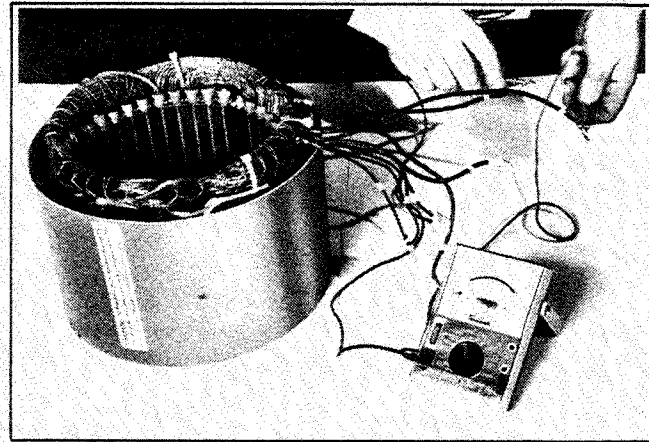

Figure 7-4. Testing Stator Windings
1. To check stator continuity, set ohmmeter on R x 1 scale. Contact the red and black meter leads; adjust ohmmeter to zero ohms. Check stator continuity by connecting meter leads to stator leads as shown in Figure 7-4.